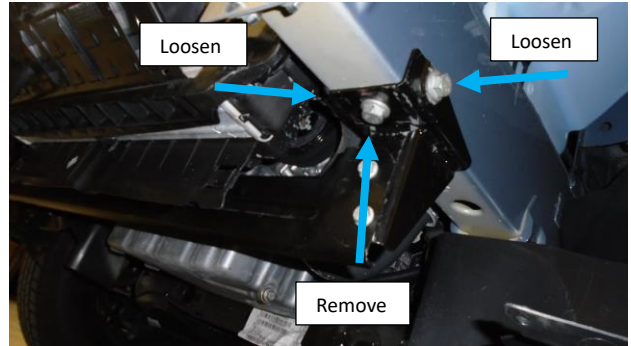

Figure 17: Engine Crossmember Bracket Factory Bolts (Driver Side Shown)
18. Remove the bottom bolt and loosen the two (2) side bolts holding on each of the black steel crossmember underneath the radiator. (see Figure 17).